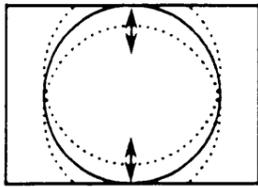

Fig 3
- 4: Adjust the vertical size to obtain overscan (fig. 3).